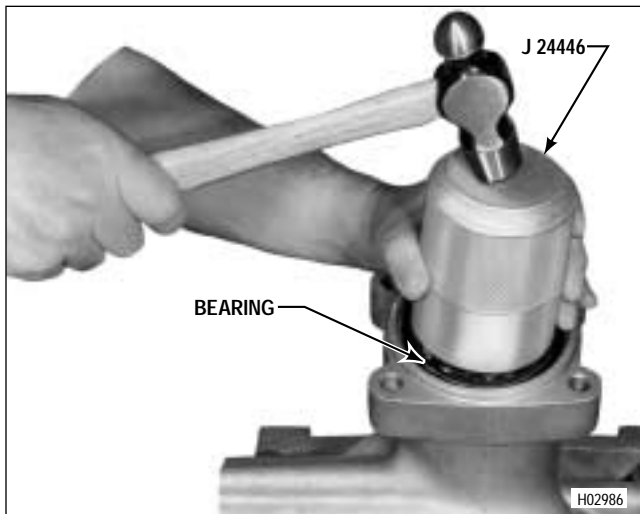

Figure 7-15. Installing Rear Output Shaft Bearing
(7) Using bearing installer tool J 24446, install rear bearing 4 (Foldout 12,B) numbered side out, as shown in Figure 7-15. Install beveled snapping 5 (Foldout 9,B), flat side down.